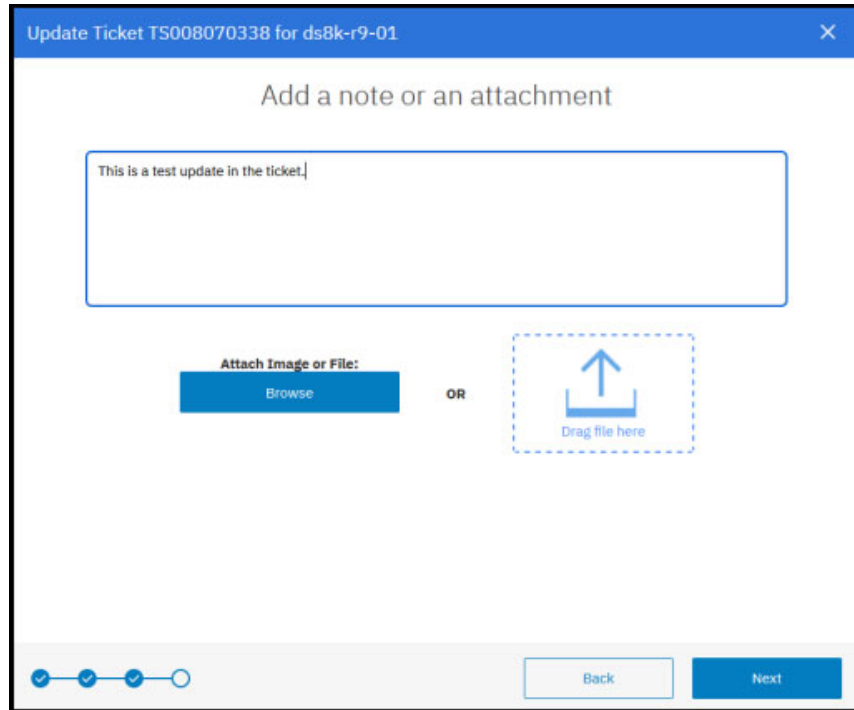

Figure 12-28 IBM Storage Insights: Ticket update and attachment
- In the window that is shown in Figure 12-28, you can leave a message for the IBM Support personnel working on the ticket. Also, you can attach any files that are related to the ticket.